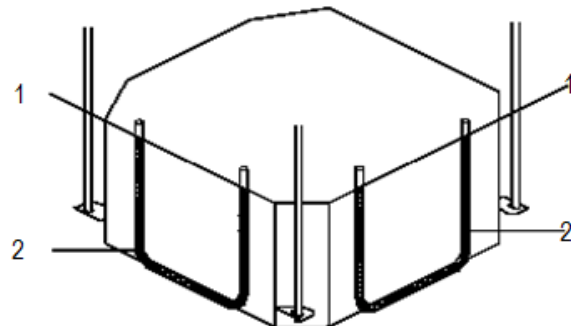

Fig. 13 – Ensure unit is level
- b. Check if the unit is level at all four corners with a water level or a water-filled vinyl tube (see Fig. 13).